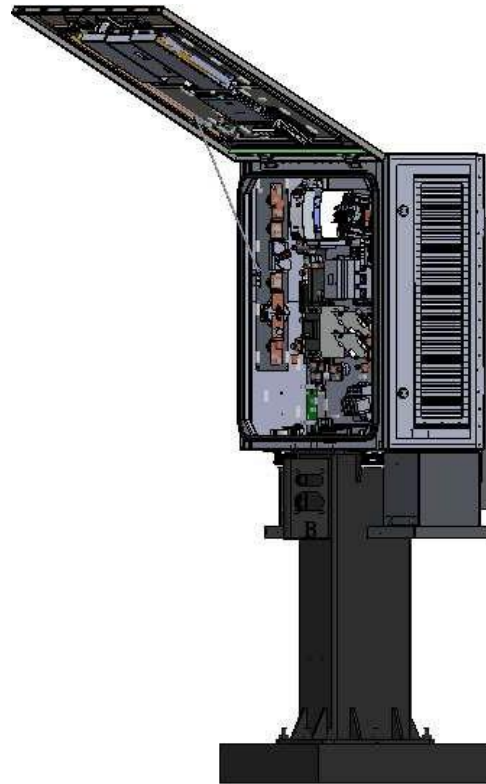

Figure 33 Opening the front door
(5) Electrical wiring. Open the front door, as shown in Figure 33, and then remove the transparent protective cover. Refer to the wiring of wall-mounted charger main body for details. After wiring, restore the transparent protective cover, retract the door brace and close the door.